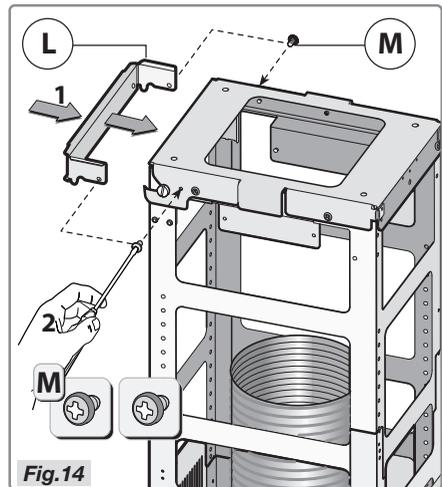

Fig.14
- Take the safety bracket **L** and secure this to the ceiling plate with the two screws **M** as indicated in Figure 14 – steps 1-2.